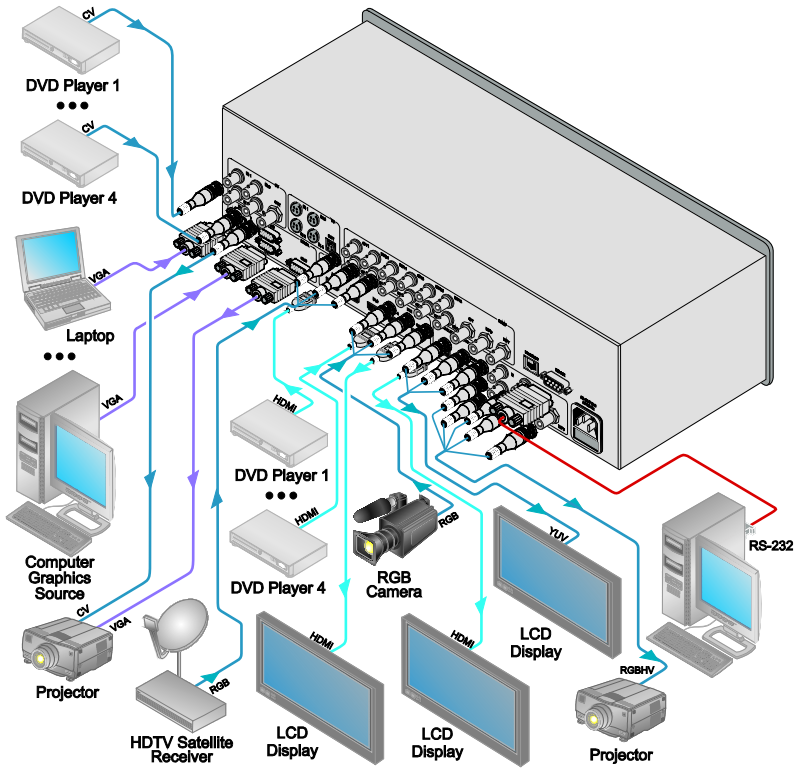

Figure 3: Connecting the VP-725N Presentation Switcher/Scaler
To connect the **VP-725N**, connect the following to the rear panel, as the example in Figure 3 illustrates:
- Up to four s-Video sources to the 4-pin input connectors (not illustrated in Figure 3)
- Connect the UXGA connector to the UXGA acceptor, for example, a monitor (not illustrated in Figure 3)
6. Connect the power cord (not illustrated in Figure 3).